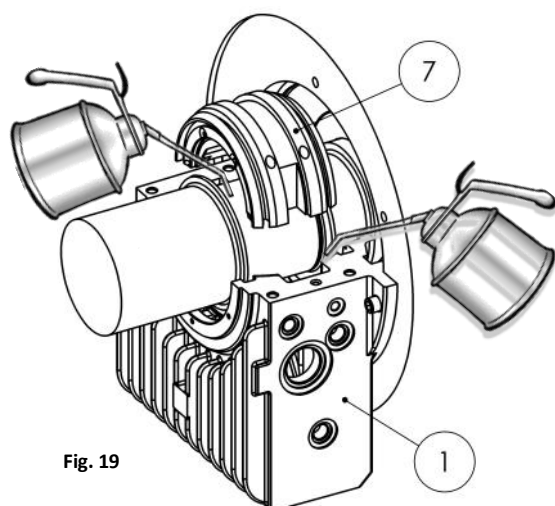

Fig. 19
- Apply an oil to the two spherical seats in the lower part of the bearing housing and to the work surface of the shaft (Fig. 19) (use the same oil as for the operation of the bearing).